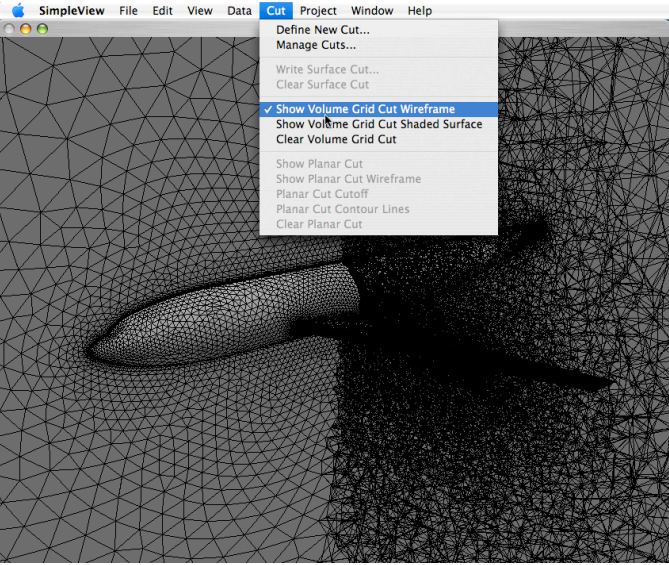

Figure 2.5.5 Displaying cuts through the volume : wireframe view
6. From within the “Cut” panel, you can choose to deselect the “Show Volume Grid Cut Shaded Surface” button, which leaves the display of the wireframe view of all the cells crossing the specified plane. Alternatively, you can deselect “Show Volume Grid Cut Wireframe” if you wish to display only the shaded representation of the cells crossing the specified plane. An example of this is shown in Figure 2.5.5.